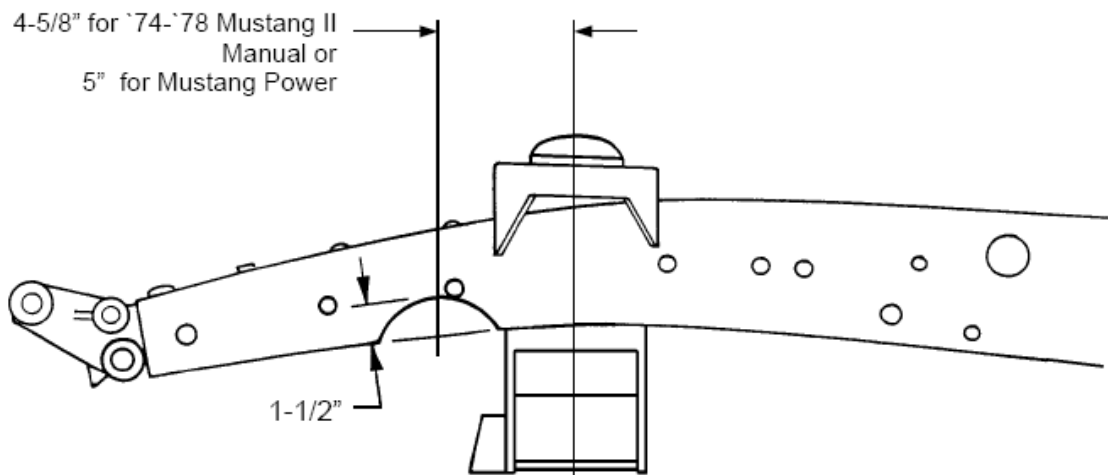

Figure 5- C-Notch
8. The C-notch for the rack is the last part to be done. Measure forward from the centerline 4-5/8" for '74-'78 Mustang II manual or 5" for Mustang power rack, and up 1-1/2" and make a mark. Now draw a 2-1/8" radius, using your mark as the top of the radius. See **Figure 5**. Trim out the material marked, leaving about 1/8" to work with, and then try the rack and the C-notch filler piece. Finish grind the notch for fit and location, and tack the filler pieces in place. Remove the rack.